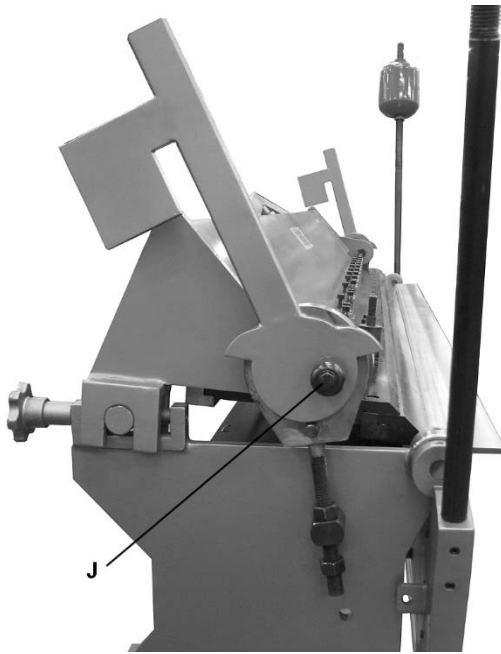
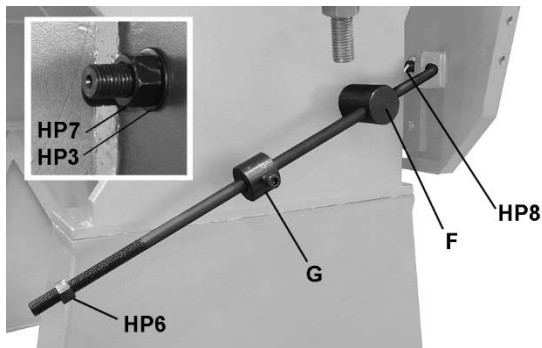

Figure 3
Figure 4
6. Remove screw, spring cover and spring (J, Figure 3). Slide handle outward just enough to clear stop pin, and rotate handle to a higher position, as shown. Reinstall spring, spring cover and screw, and tighten screw until there is no “play” in the handle.
7. Install counterweight assemblies to left and right hinges and tighten set screws. See Figure 3.
8. Install handle (B) and center brace (C) to front of apron (HP1, HP4, HP5).
9. Install stop rod assembly on left side of brake, through weldment on apron, as shown in Figure 4. Secure stop rod pin (F) with flat washer and hex nut (HP7, HP3). Install cotter pin (HP8) at end of stop rod, and bend with pliers to secure.
Adjust stop collar on stop rod (Figure 4) to limit apron swing.